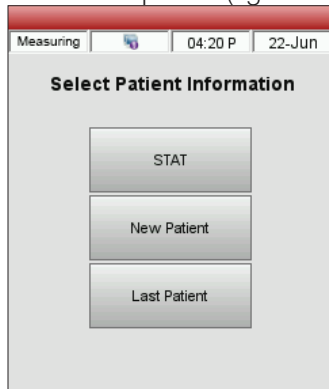

Figure 17. Measurement> Select Patient Information screen
- Tap the **STAT**, **New Patient** or **Last Patient** button (figure 17).